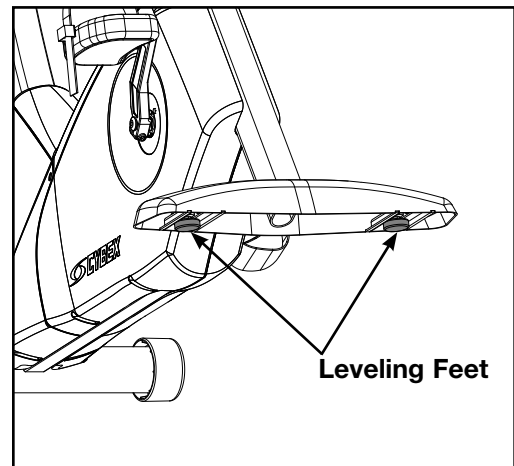

Figure 9
- A. Confirm that the unit is on a level surface. If not, use a 9/16" open-end wrench to adjust the leveling feet up or down. See Figure 9.